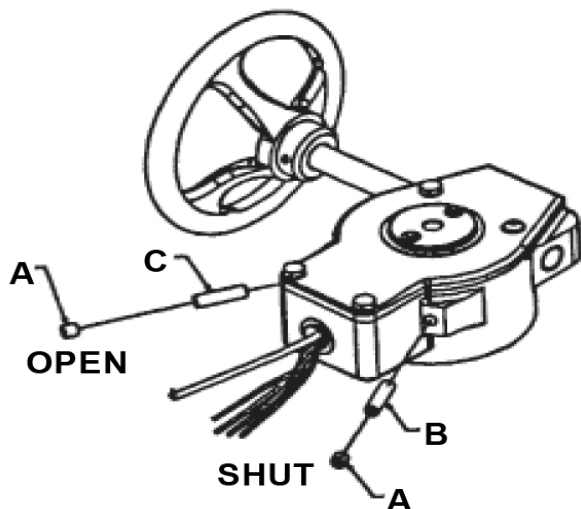

FIGURE 5
5. Stop adjustment – Using a proper size hex Allen wrench, remove both locking set screws (A) as shown in *Figures 5 and 6*.
- SHUT stop adjustment - Using proper size hex Allen wrench, turn set screw (B) counter-clockwise 2 turns. Rotate hand wheel until disc is centered in valve seat. Turn set screw (B) clockwise until it stops. Secure set screw “B” by replacing only one locking set screw (A) in same hole and tightening it until it stops.
- OPEN stop adjustment – Using proper size hex Allen wrench, turn set screw (C) counter-clockwise 2 turns. Rotate hand wheel until disc is centered in valve opening. Turn set screw (C) clockwise until it stops. Secure set screw (C) by replacing second locking set screw (A) in same hole and tightening it until it stops.